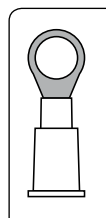

Fig 7.1.2 Battery Ring terminal
- Crimp the battery ring terminals (Fig. 7.1.2) provided to the Positive and Negative wire leads to be connected to the battery terminals.